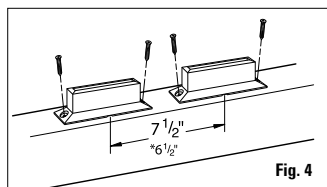

Fig. 4
Step 4: Attach bottom connectors. Attach bottom connectors (B1) to bottom rail at marked locations, using the screws provided. (Fig. 4)